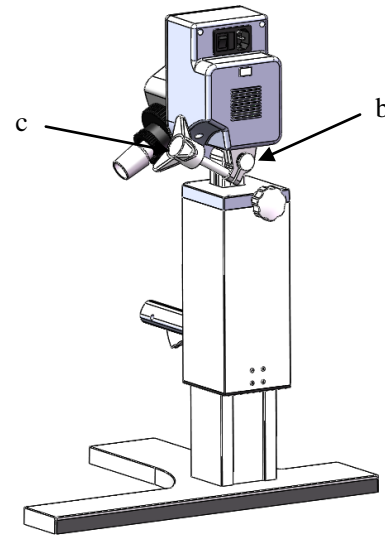

Fig. 12
- Rotate the locking device (d) (Fig. 12) by 60° counterclockwise to mount the evaporating tube in place, and rotate the locking device (d) clockwise for locking